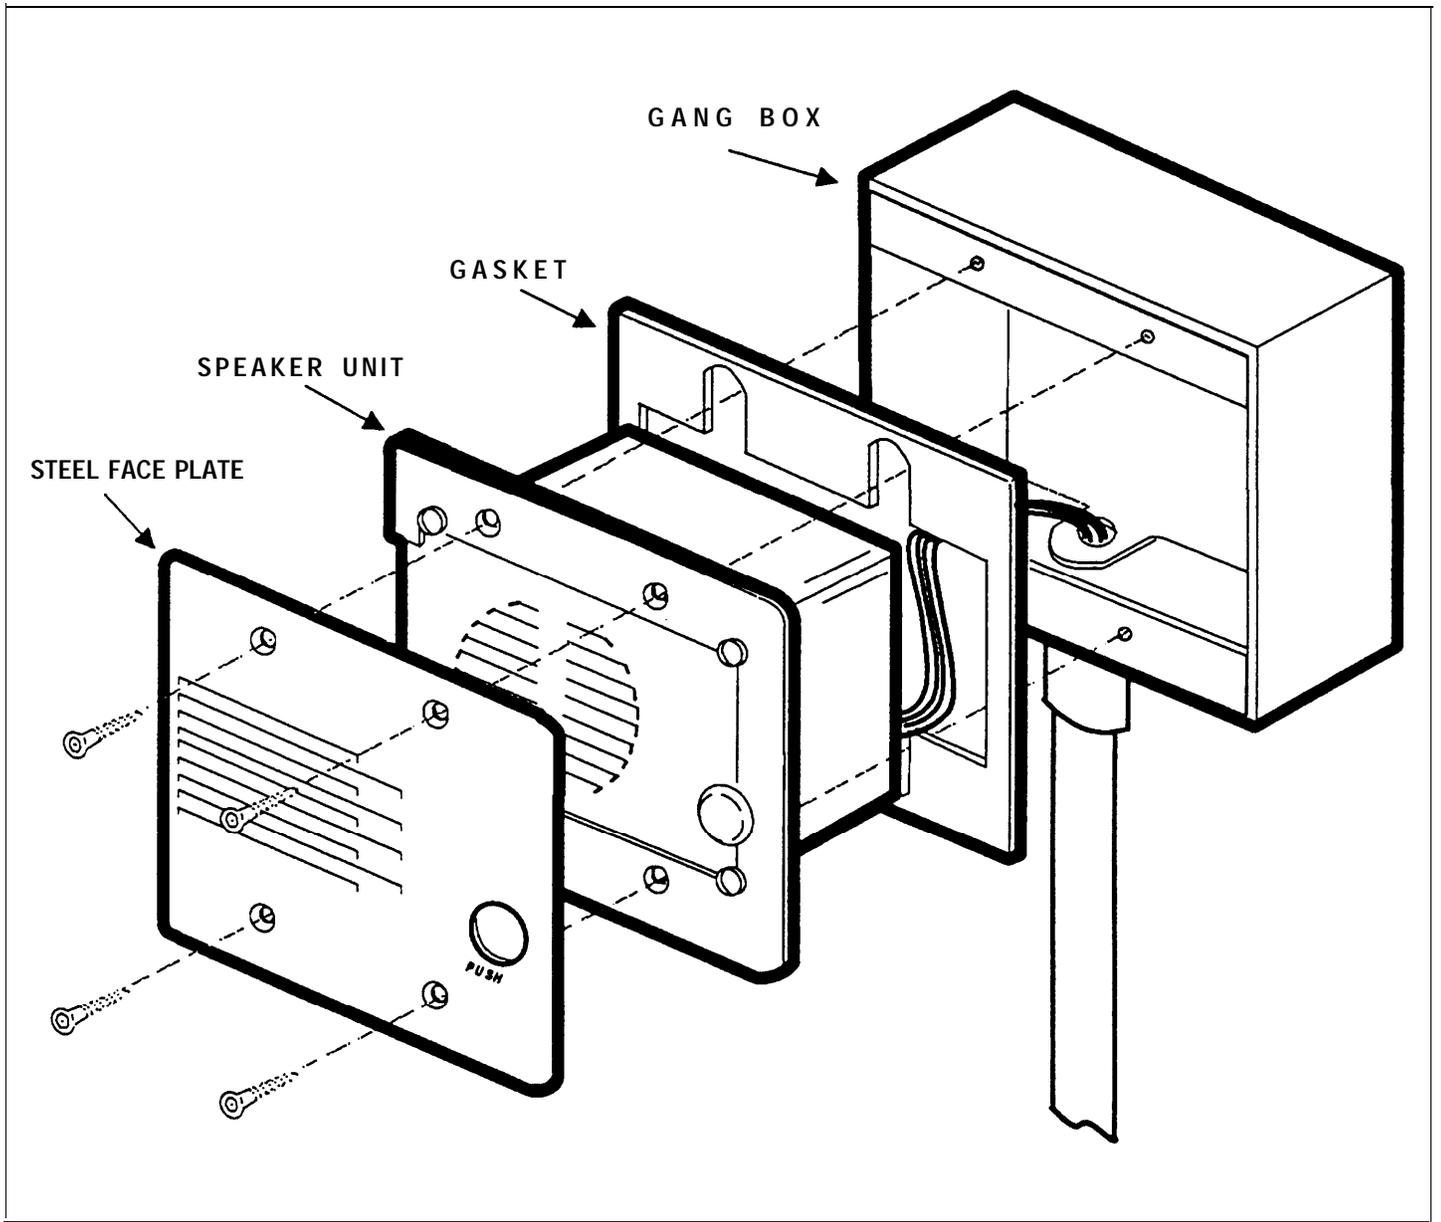

Figure 2-7. Attach AT&T Door Phone Speaker and Faceplate
6. Secure AT&T Door Phone Speaker and faceplate to double-gang outlet box with four mounting screws (included) as shown in Figure 2-7.